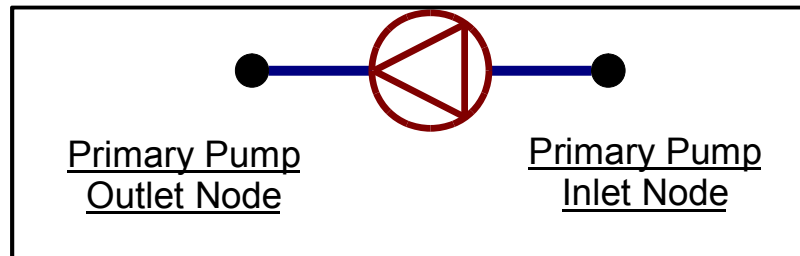
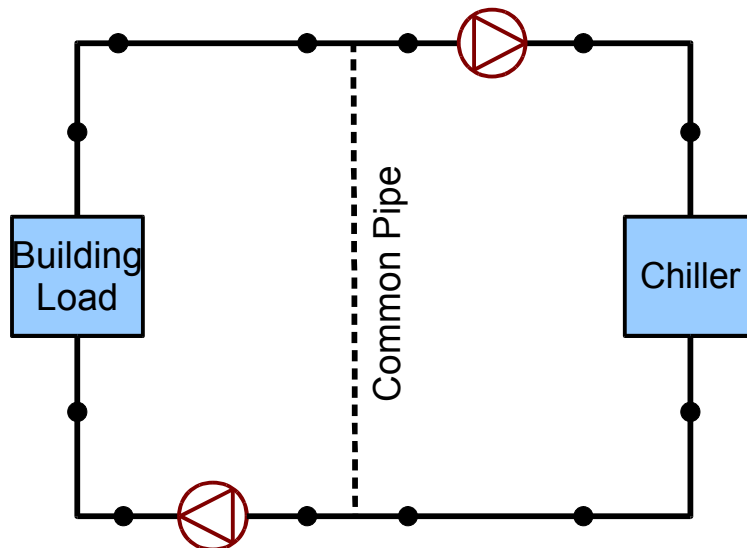

Figure 6 - Node placement on components
Figure 7 - Nodes in the system
5. **Identify all the nodes in the system.** As mentioned above, placing a node on each side of a component is a good way to pinpoint all the nodes in the system. This process should be repeated for every component in the loop. Figure 6 shows the placement of all the nodes on Individual components, while Figure 7 shows all the nodes in the system.